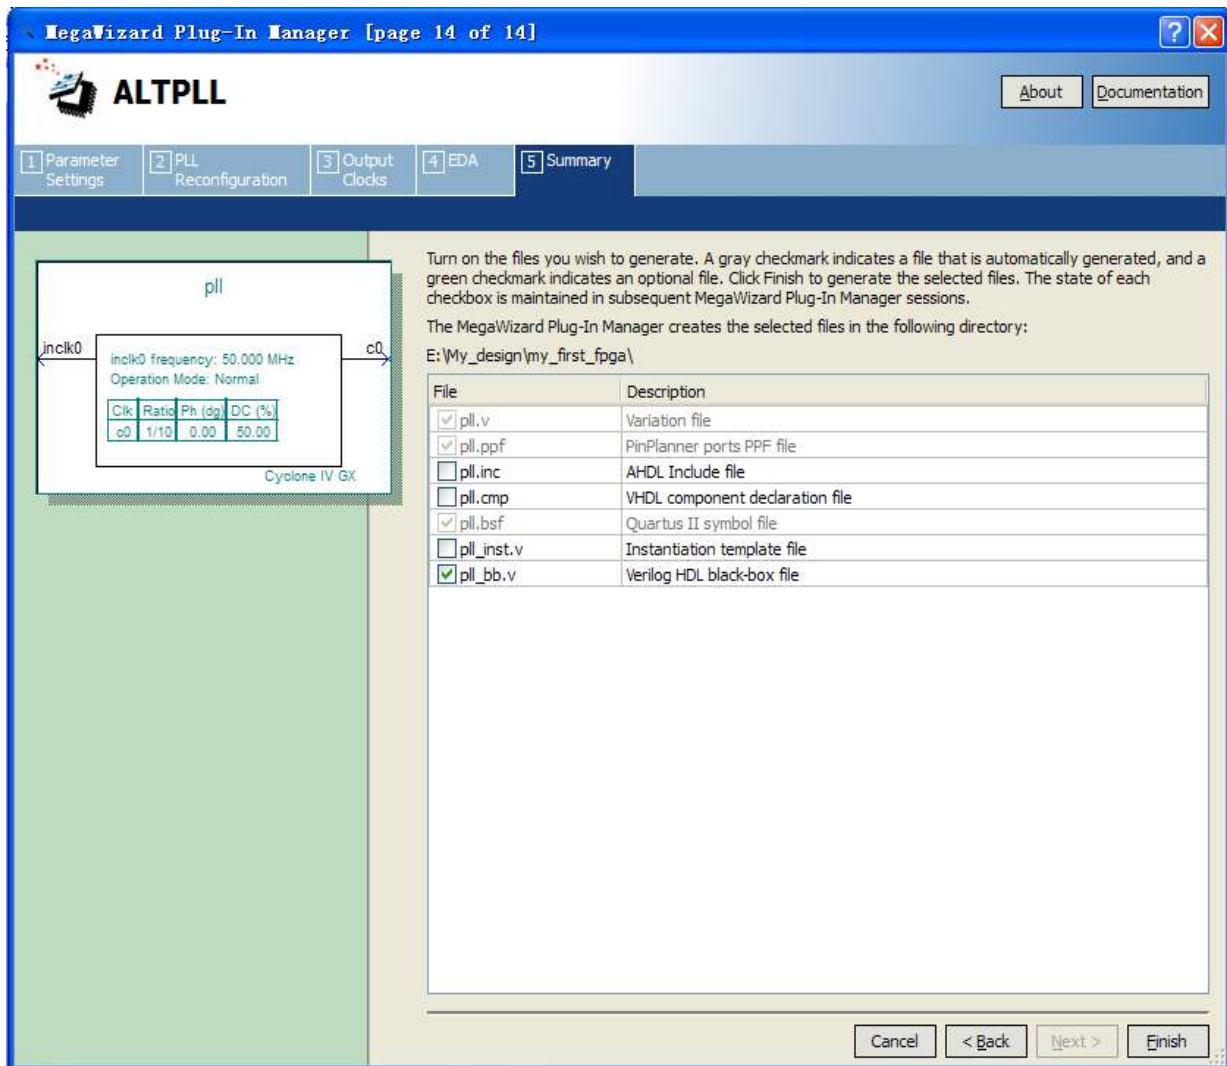

Figure 3-13 Wizard-Created Files
10. The wizard displays a summary of the files it creates (see Figure 3-13). Click Finish .